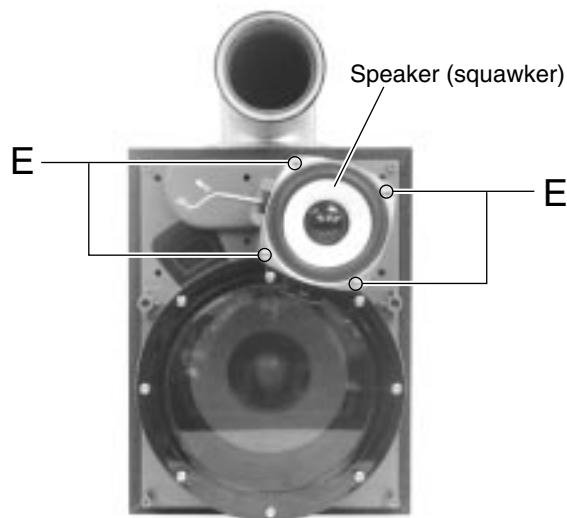

Fig.5
■ Removing the speaker (squawker) (See Fig.5)